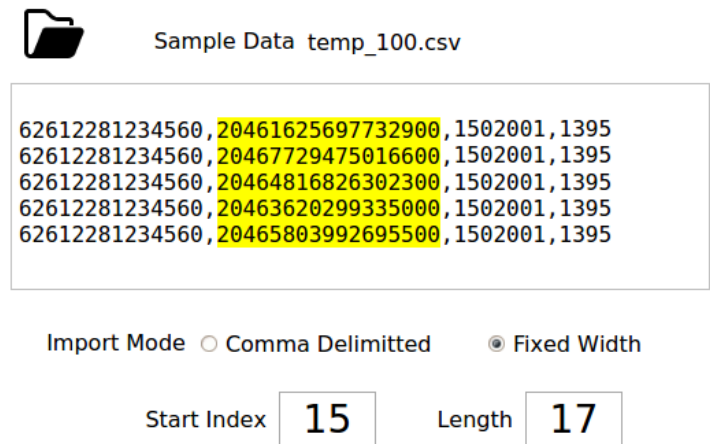

Figure 25: DB- Text Fixed Width
**Comma Delimited:** In which the whole record (row) is divided by comma into fields (columns). Then a DB-Text object requires only an Index parameter to point to the target field. Use escape sequence '\,' to print comma. The 'Estimated chars' parameter is hint for the printer to predict the size of dynamic object before the actual data is available. This parameter is not used to cut-off the data (Figure 25).
**Fixed Width:** In which two parameters is provided to extract the data from the External Data Record: starting index and length of data. With this method, comma will be a regular printable character. This is similar to DB-Text in Figure 25.